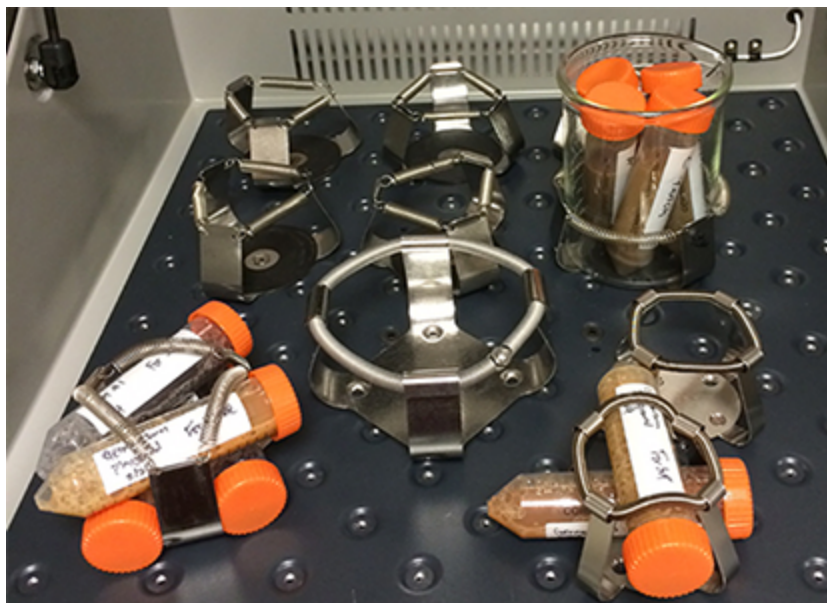
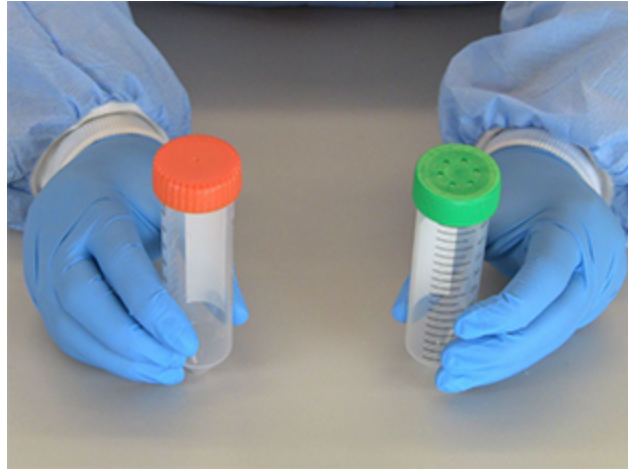

Figure 1.0. Arrangement of 50 ml conical tubes in a shaker equipped for flasks
Fig 1.1. Right: A 50 ml conical tube with a vented cap. Left: A 50 ml conical tube without a vented cap, shown for comparison.
- The phage extraction step (washing) and enriched isolation can be performed in 50 ml conical tubes. This allows for additional samples to be incubated at once (Figure 1.0). In such instances, it may be necessary to use vented conical tubes as some bacteria can be sensitive to low oxygen levels (Figure 1.1).